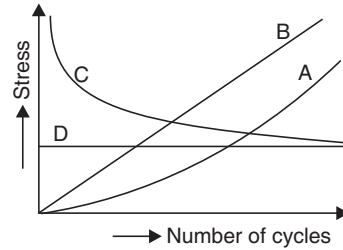

FIGURE 10.3
5. Figure 10.3 shows the range of stress causing failure against the number of cycles, when a material is subjected to varying stresses. The correct curve is given by
6. In Fig. 10.3, the endurance limit (or fatigue limit) is represented by